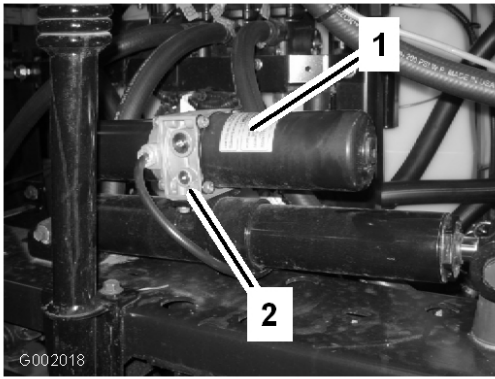

Figure 71
- Locate the manual relief valve on the actuator for each boom. The manual relief valve is the smaller valve and is only on one side of the actuator body (Figure 71).